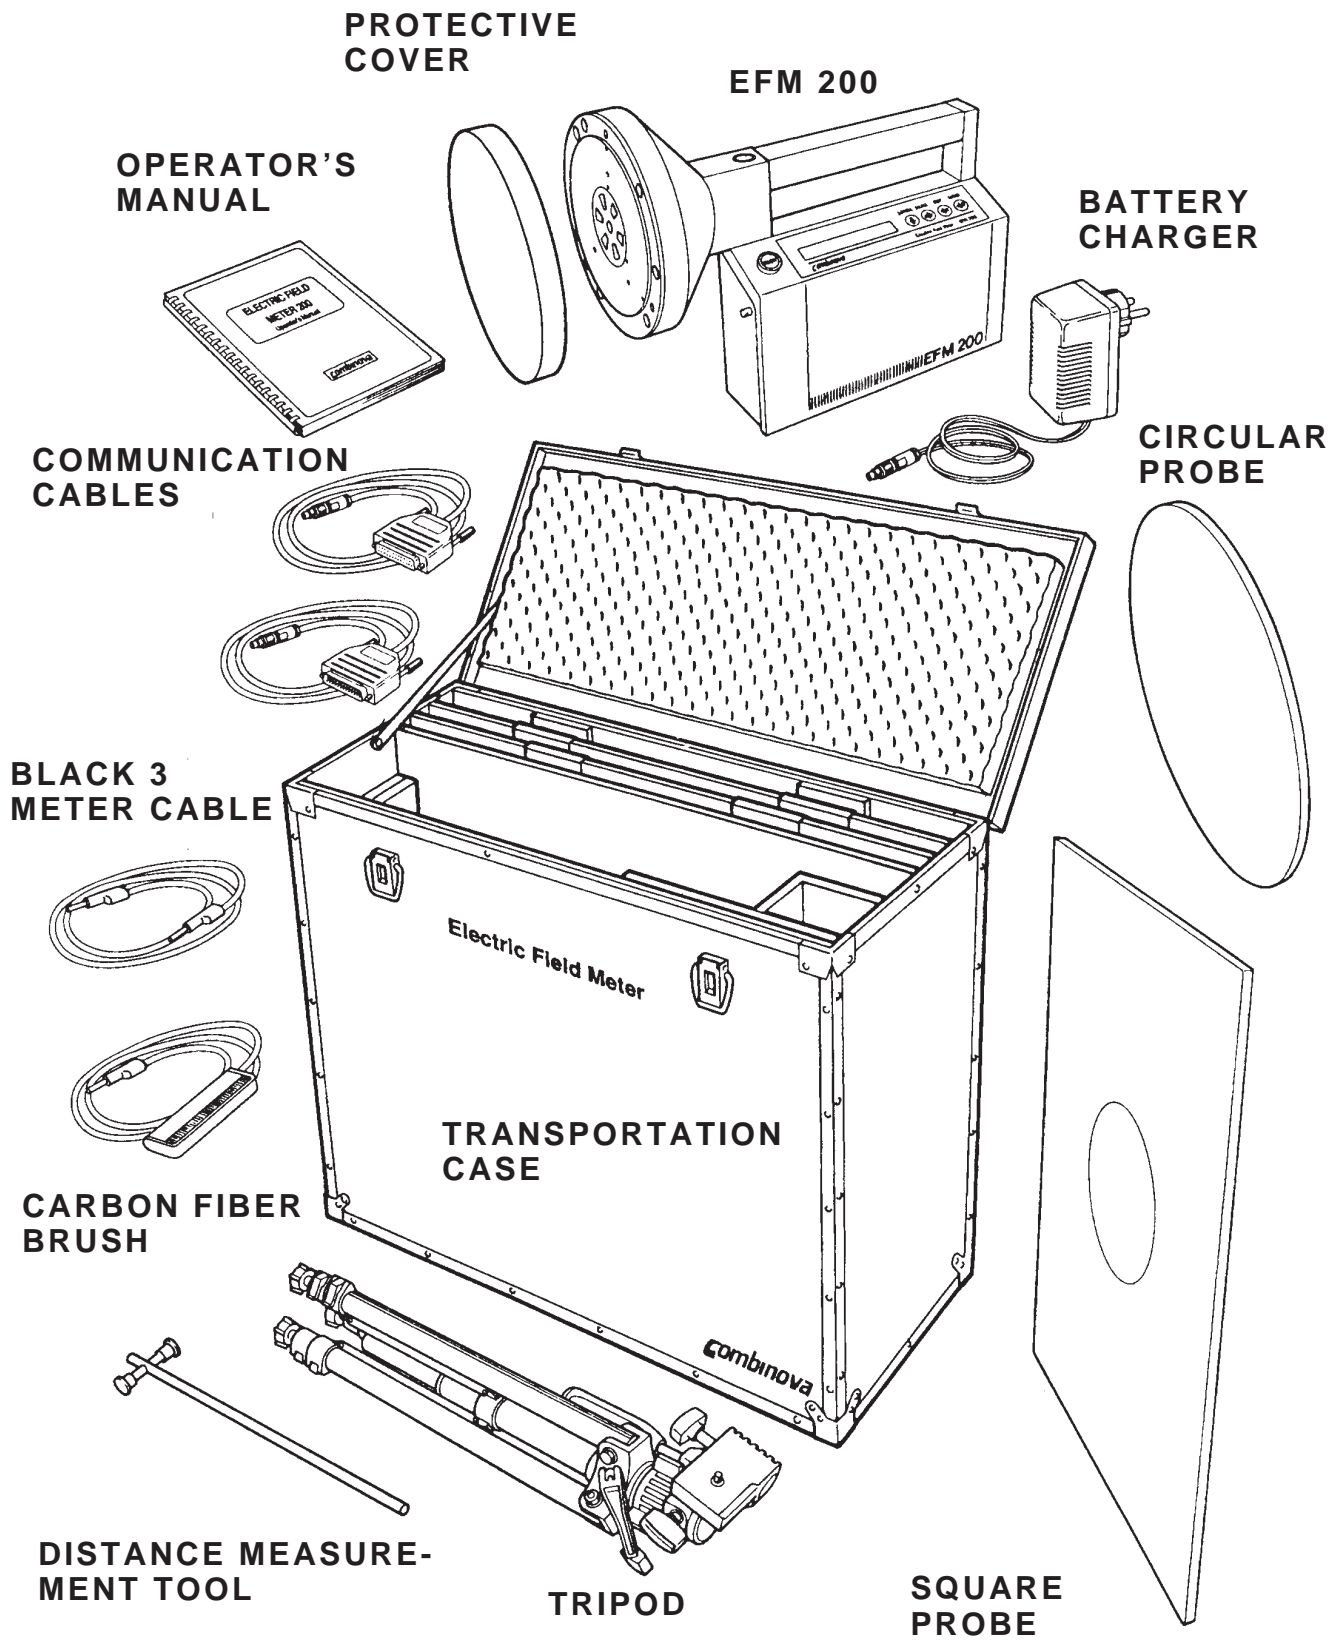

Fig. 2.1 Unpacking the EFM 200
Open the case and check that the following items have been supplied (see Fig. 2.1):
- Switch on the instrument, using the ON/OFF button (see figure 2.1).